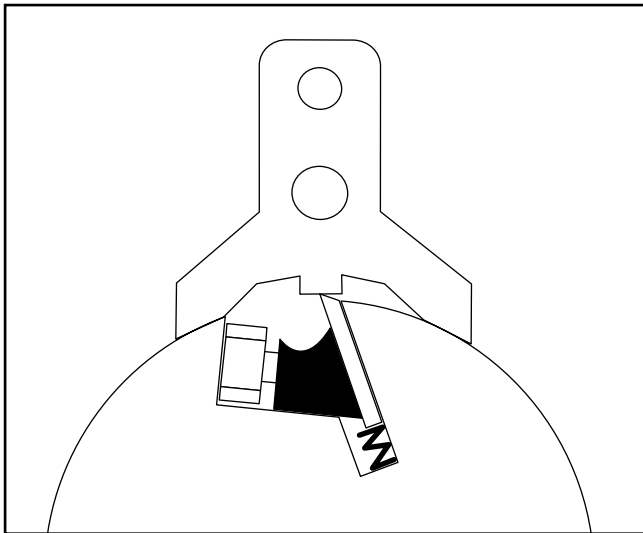

Figure 16. Proper knife setting jig placement.
4. Using the knife setting gauge, check the knife height. The jig should sit solidly with both feet on the cutterhead. **See Figure 16.** If the knife is adjusted properly, the contact point at the center of each adjuster should just touch the tip of the knife. If the knife does not make contact, or if the knife causes the adjuster's legs to not seat on the cutterhead, the knives need to be adjusted. It may be helpful to mark the side of the knife with an ink marker to indicate whether it is high or low. This will make the actual adjustment process easier.